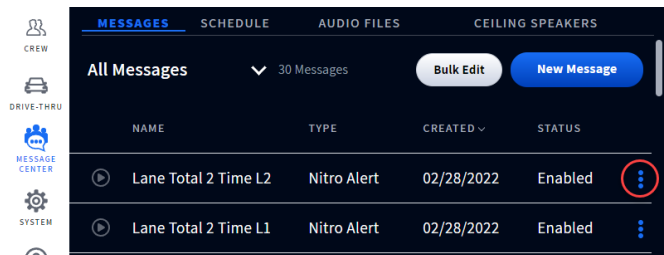

Fig. 4.3
4. Navigate to the **MESSAGE CENTER** screen, and under the **MESSAGES** tab, find Nitro Alerts listed under the **TYPE** column (see in Fig. 4.3).
5. Use the More icon at the end of each row to enable/disable or edit alerts. For example, Fig. 4.3 shows the first two Nitro Alerts enabled. Also see the online document “Configuring ZOOM Nitro to NEXEO Alerts” for more details. It can be found here: